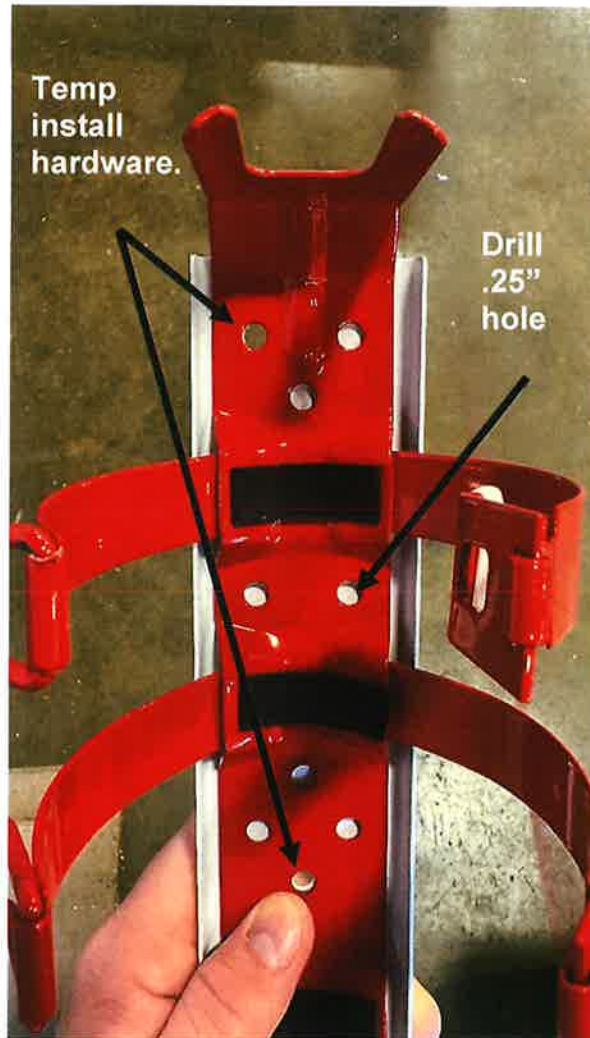

Figure 8-2
4. Hold the parts together by temporarily installing the appropriate hardware in the aligned holes of the red mount and the white bracket. (Reference Figure 8-2)
5. Match-drill a .25-inch hole through the white bracket as shown in Figure 8-2.